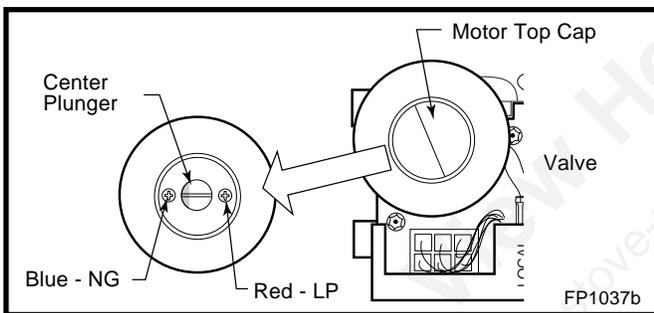

Fig. 75 Depress and turn center plunger.
18. Remove motor top cap. Depress and turn center plunger until arrow points to correct screw. Red for LP and Blue for NG. NOTE: Plunger will “snap” into NG position when arrow is close to blue screw. It will not “snap” at LP (Red) position. (Fig. 75)